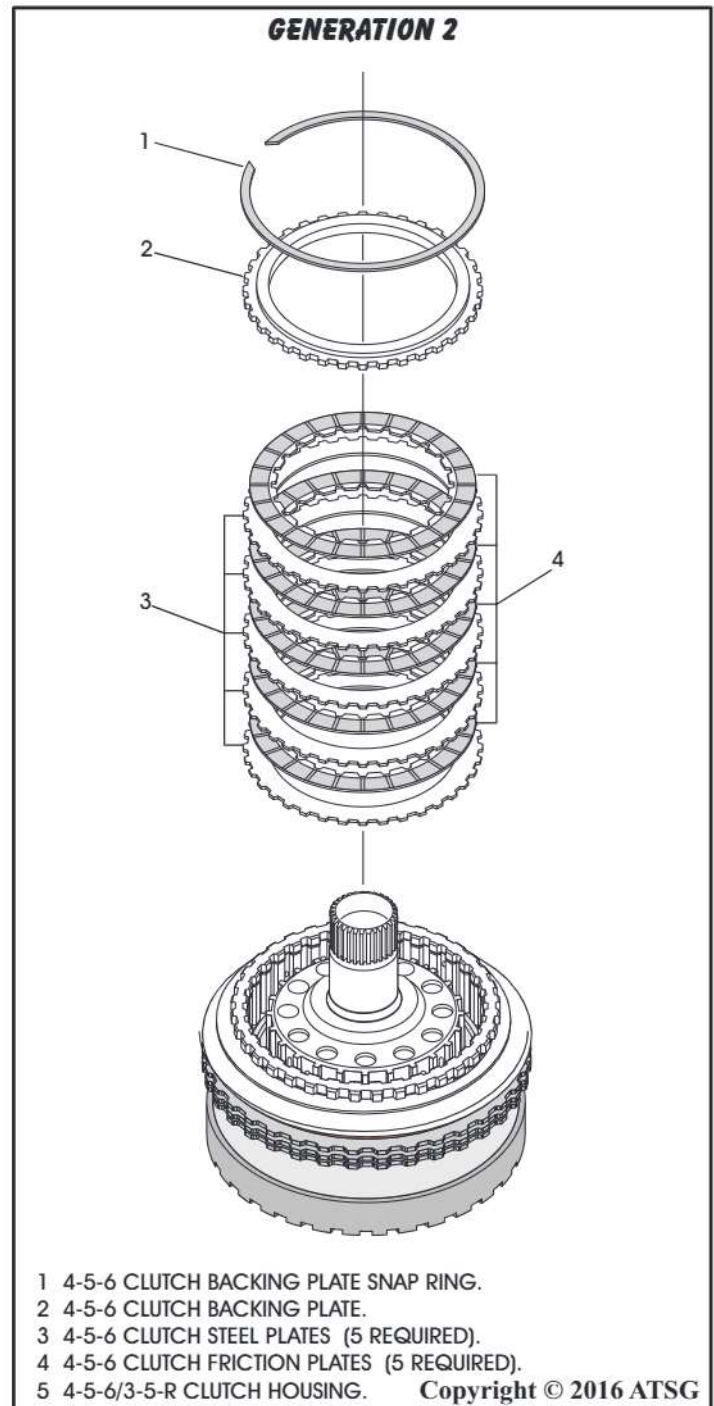

Figure 119
87. Starting with a steel plate, install five friction and five steel plates in an alternating fashion as shown in Figure 119.
88. Install the 4-5-6 clutch backing plate and then the retaining snap ring as seen in Figure 119.